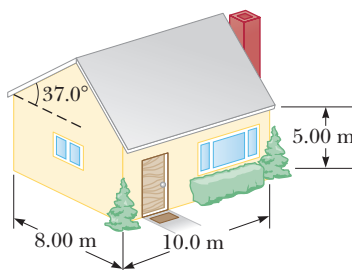

Figure P20.78
**78.** The average thermal conductivity of the walls (including the windows) and roof of the house depicted in Figure P20.78 is  $0.480\text{ W/m} \cdot ^\circ\text{C}$ , and their average thickness is 21.0 cm. The house is kept warm with natural gas having a heat of combustion (that is, the energy provided per cubic meter of gas burned) of  $9\,300\text{ kcal/m}^3$ . How many cubic meters of gas must be burned each day to maintain an inside temperature of  $25.0^\circ\text{C}$  if the outside temperature is  $0.0^\circ\text{C}$ ? Disregard radiation and the energy transferred by heat through the ground.